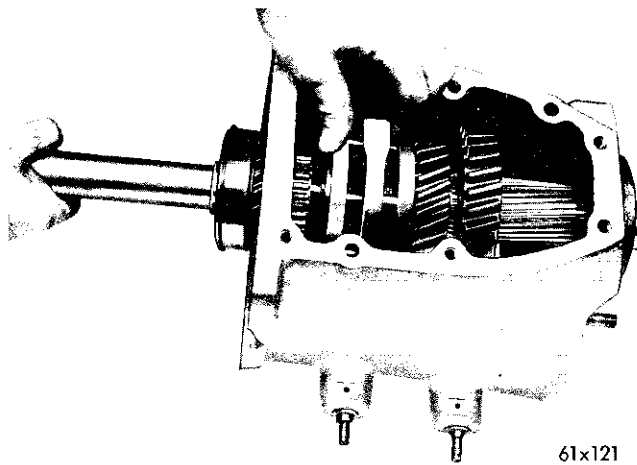

Fig. 18—Removing Drive Pinion Assembly
- (1) Remove the bolts that attach the main drive pinion bearing retainer, then slide the retainer off the pinion. Discard the gasket and drive the seal out of the retainer, using a suitable drift.
- (2) Grasp the pinion shaft and pull the assembly out of the case slightly, then slide the synchronizer front inner stop ring from the short splines on the pinion as the pinion assembly is being removed from the case, (Fig. 18).